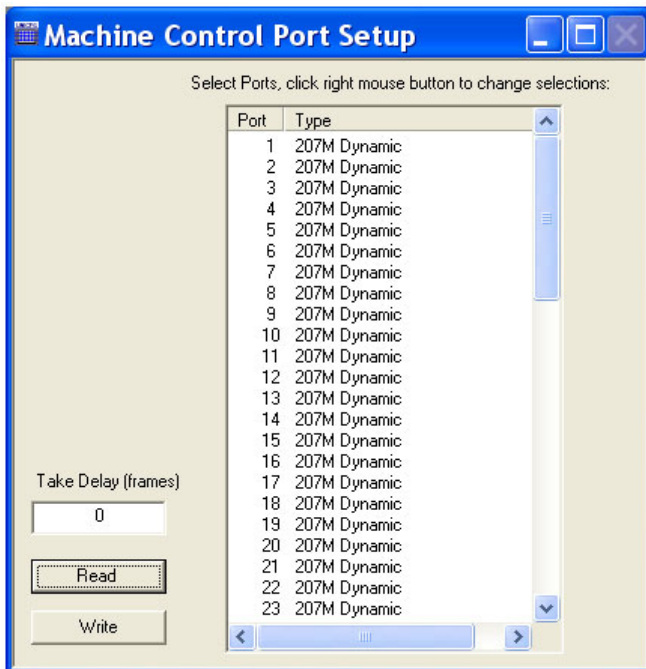

Figure 11-1. Machine Control Port Setup Window
- 3 From the menu bar, select 'Window > Machine Control Port Setup'. The 'Machine Control Port Setup' window appears displaying current port settings, as shown in Figure 11-1 on page 102.